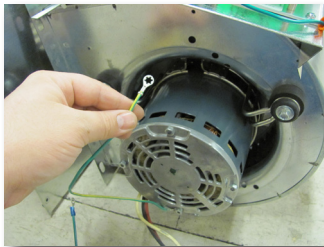

*Fig. 6a*
6. Unscrew the four 1/4" screws connecting the control plate to the blower. (Figs. 6a, 6b)